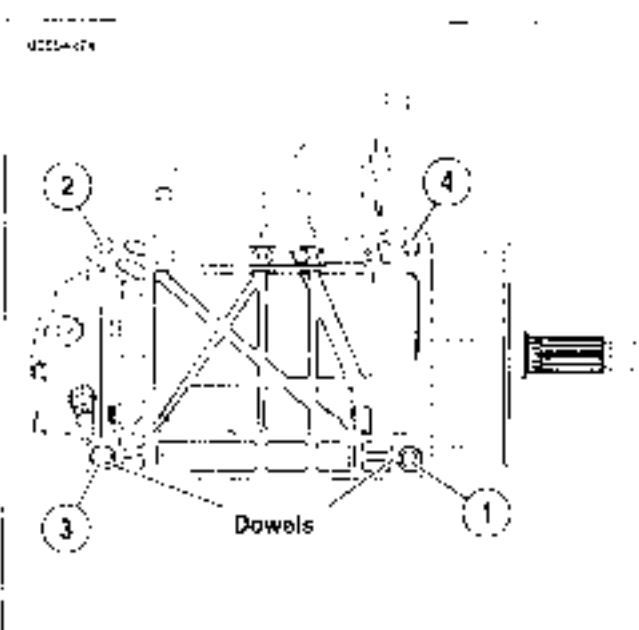

Figure 7-37. Transmission Mounting Bolts
6. See Figure 7-37. Verify that transmission dowels are seated. Tighten all transmission mounting bolts in the sequence shown. Connect foot shifter rod to shifter arm.